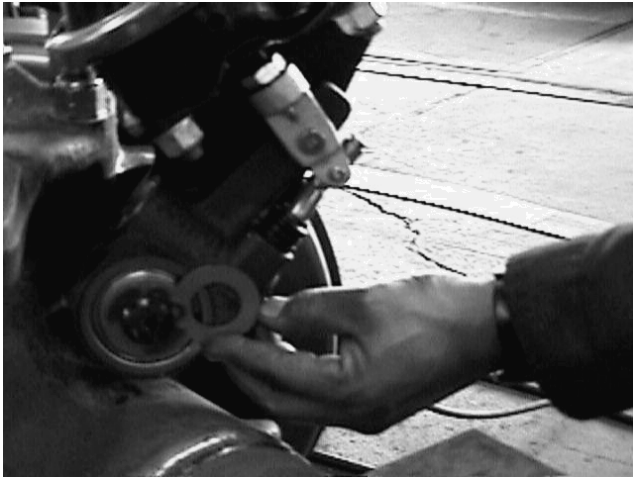

Figure 20
5. Tap on the cam end of the shaft with a soft mallet to move the shaft inboard. Attempt to insert a .030" spacer between the existing spacers and the snap ring. See Figure 20. If the spacer slides easily between the two, remove the snap ring and install the spacer. Reinstall the snap ring and repeat this step until a .030" spacer can no longer be inserted.